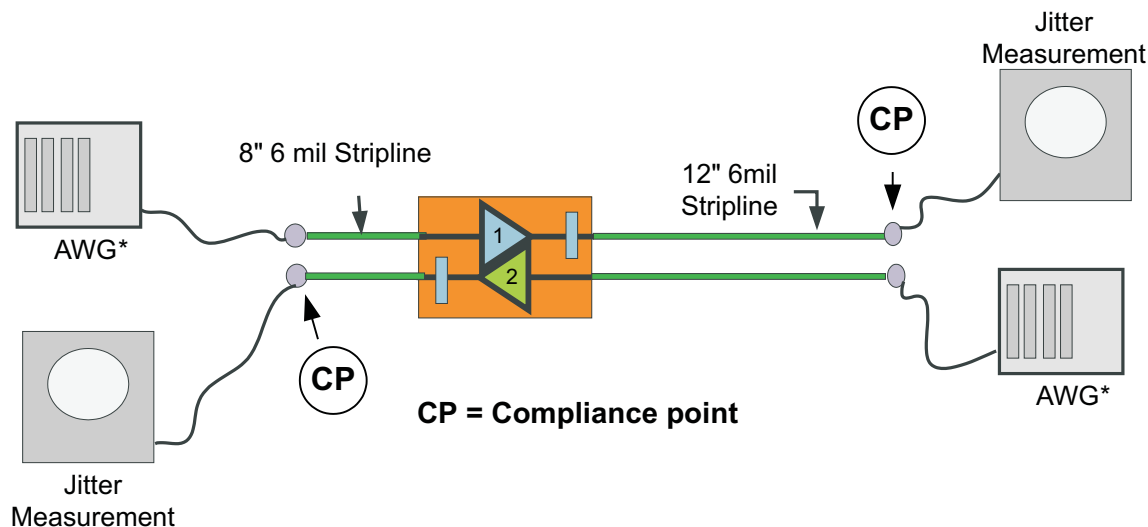

Figure 9. Jitter Measurement Test Condition
- (1) $TJ = (14.1 \times RJ_{SD} + DJ)$, where RJ_{SD} is one standard deviation value of RJ Gaussian distribution. Jitter measurement is at the SATA connector and includes jitter generated at the package connection on the printed circuit board, and at the board interconnect as shown in Figure 9.